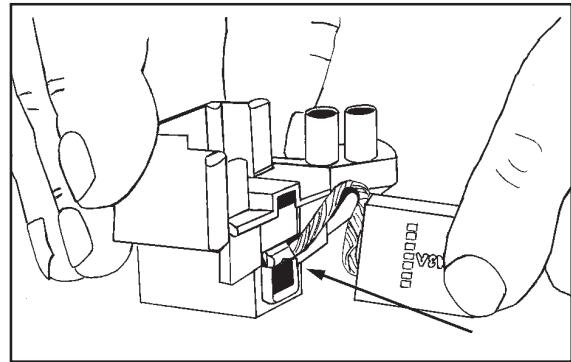

Figure 14
7. To put in a new carbon brush, negotiate the terminal on the shunt wire by the spring and brush holder guide. Take care not to damage the spring. See figure 14.